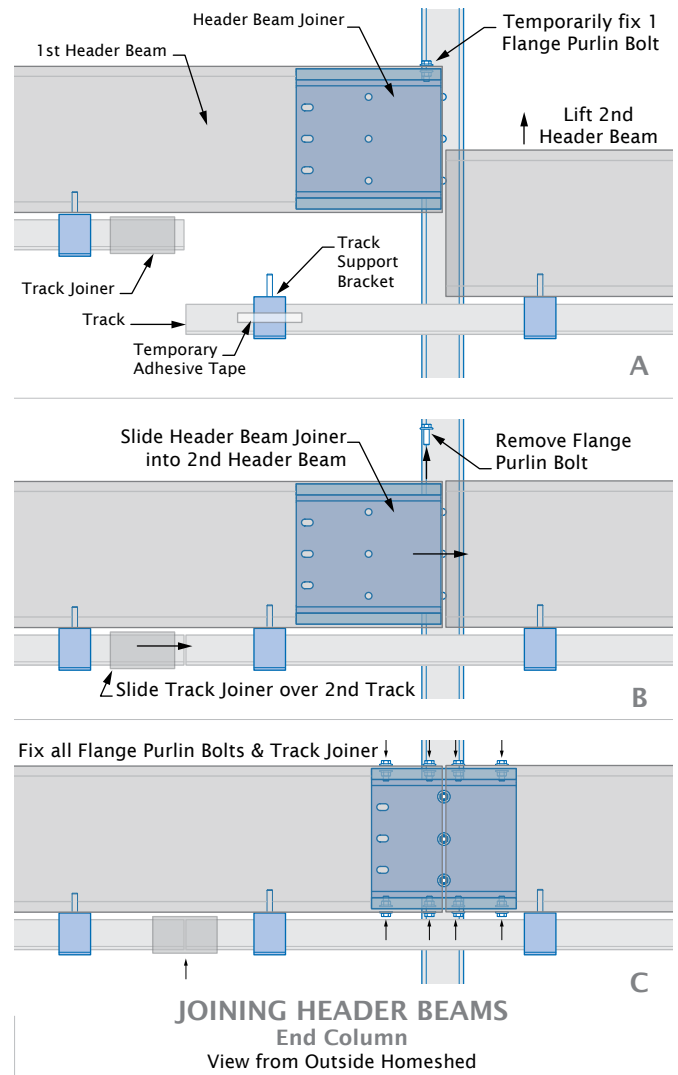

Figure 47
**Note:** If the sliding door track is located under the header beam, the shorter of the two sliding door tracks must be installed on the same header beam that contains the header beam joiner (Figure 47).